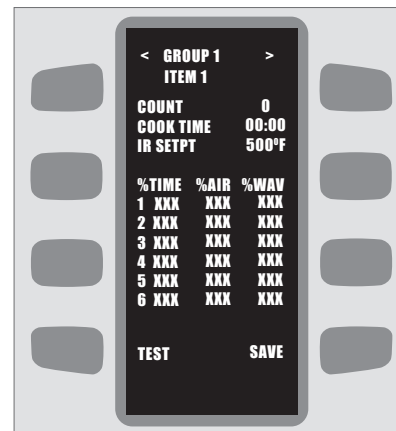

FIGURE 13: Edit Recipe Settings
4. Use the UP and DOWN keys to navigate through the recipe settings. Use the keypad and ENTER key to alter any of the following three (3) parameters (see Figure 13):